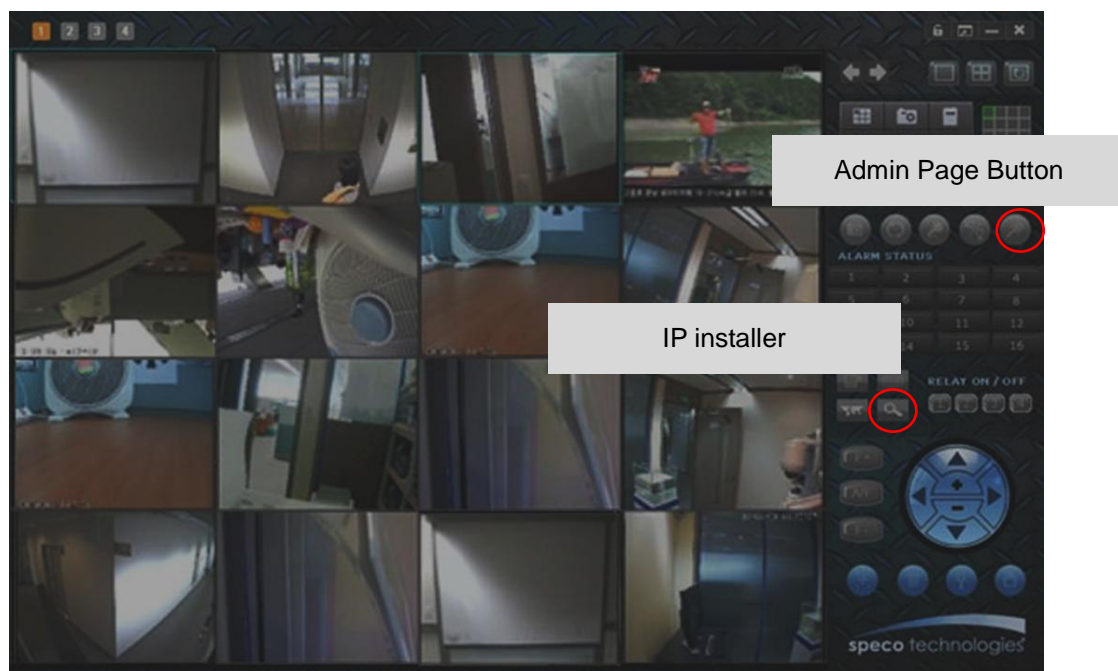

**Figure 4-1. Power and network connection**
- 2) Connect OINT03D as shown in dotted line in Figure 4-1. The DC power is applied through DC adaptor.